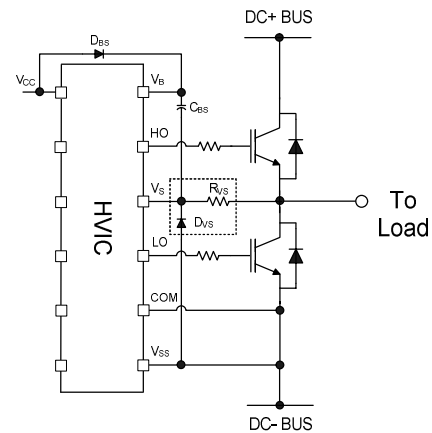

**Figure 35: Supply capacitor**
**Supply Capacitor:** It is recommended to place a bypass capacitor ( $C_{IN}$ ) between the  $V_{CC}$  and  $V_{SS}$  pins. This connection is shown in Figure 35. A ceramic 1  $\mu$ F ceramic capacitor is suitable for most applications. This component should be placed as close as possible to the pins in order to reduce parasitic elements.